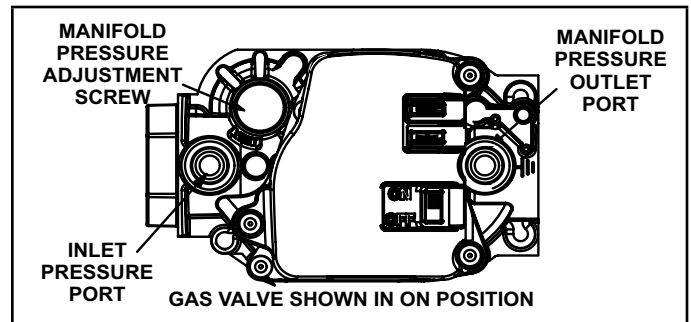

FIGURE 57
Gas Valve Operation (FIGURE 57)
- 6 - Move gas valve switch to **OFF**. See FIGURE 57.
- 8 - Move gas valve switch to ON. See FIGURE 57.
When testing supply gas pressure, use the 1/8" N.P.T. plugged tap located on the gas valve to facilitate test gauge connection. See FIGURE 57. Check gas line pressure with unit firing at maximum rate. Low pressure may result in erratic operation or underfire. High pressure can result in permanent damage to gas valve or overfire.